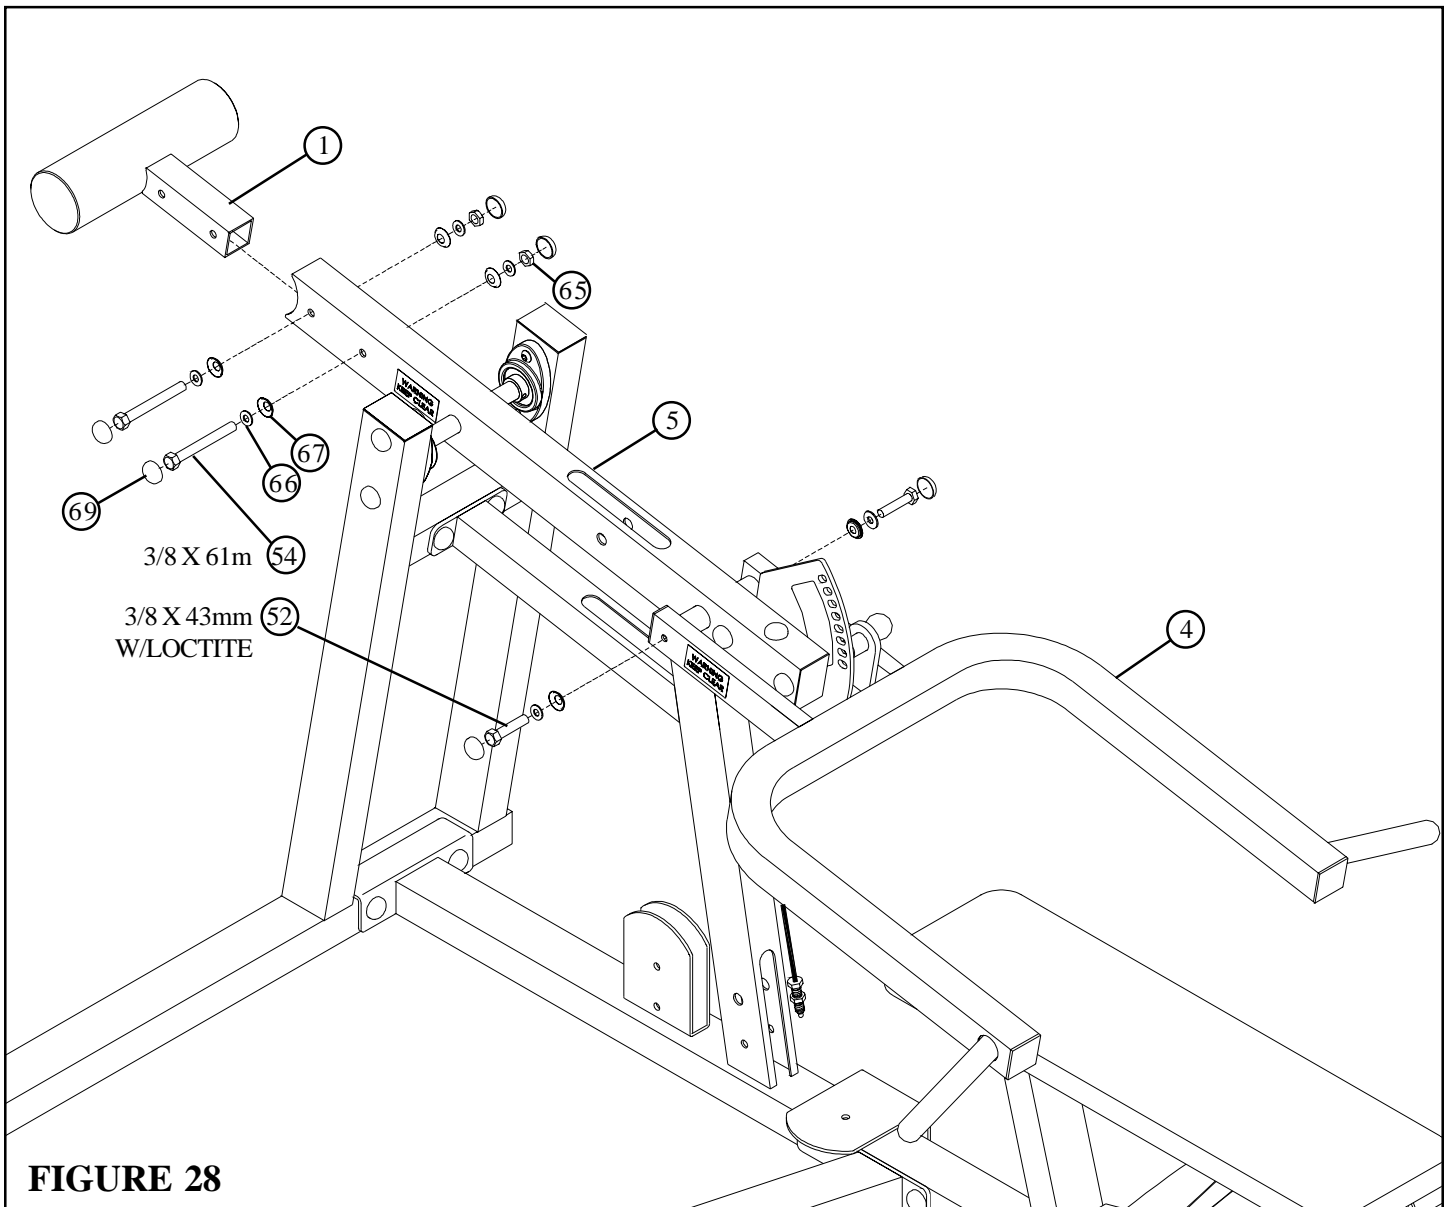

FIGURE 28
- **SECURELY** assemble the PRESS ARM (4) to the PIVOT ARM (5) using two RH CAPS (69), two 3/8 X 43mm BOLTS W/LOCTITE (52), two 3/8 SAE WASHERS (66) and two 3/8 RH WASHERS (67) as shown in FIGURE 28.
- **SECURELY** assemble the COUNTERBALANCE (1) to the PIVOT ARM (5) using four RH CAPS (69), two 3/8 X 61mm BOLTS (54), four 3/8 SAE WASHERS (66), four 3/8 RH WASHERS (67) and two 3/8 LOW HEIGHT LOCK NUTS (65) as shown in FIGURE 28.